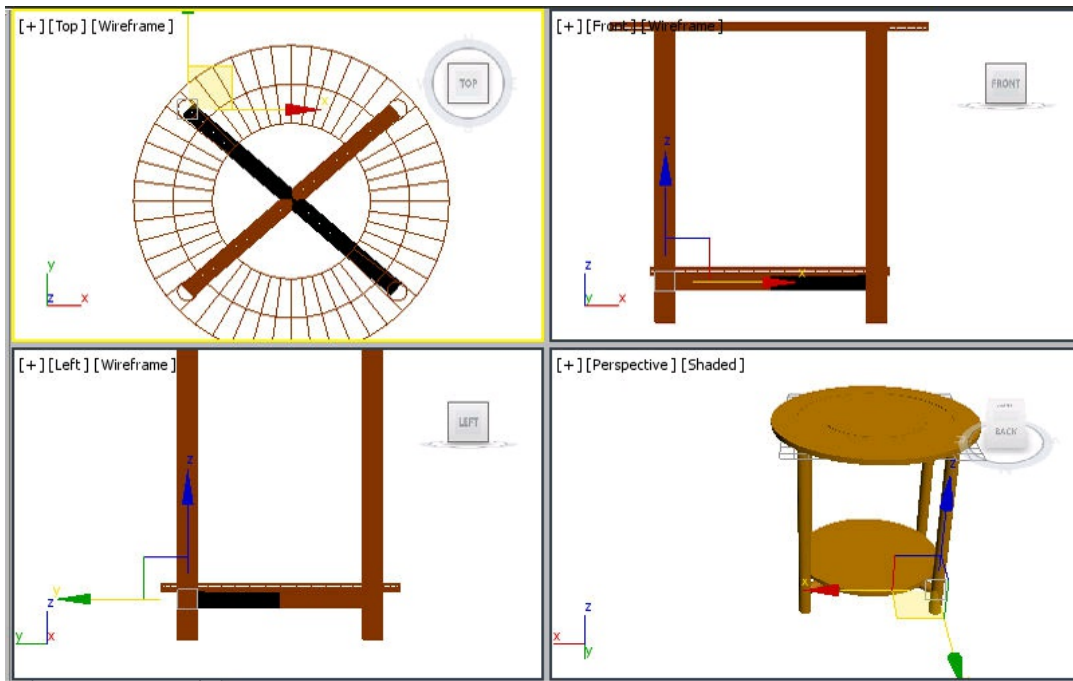

Figure 2-57 Alignment of *support002* with *base01*
7. In the Top viewport, copy *support01* by using the **Clone Options** dialog box as described earlier; *support002* is created. Now, align it with *base01* using the **Select and Move** and **Select and Rotate** tools, refer to Figure 2-57.